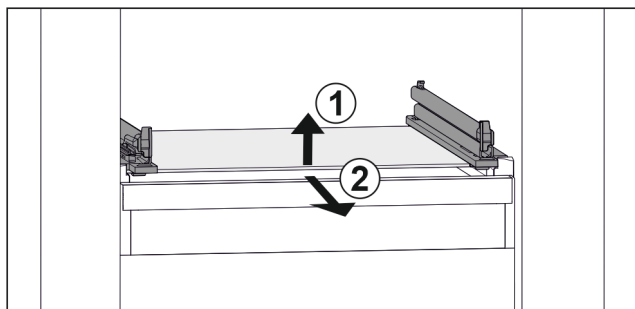

Fig. 37 Example illustration of glass shelf
- ▶ Lift glass shelf at the front. *Fig. 37 (1)*
- ▶ Remove glass shelf to the front. *Fig. 37 (2)*